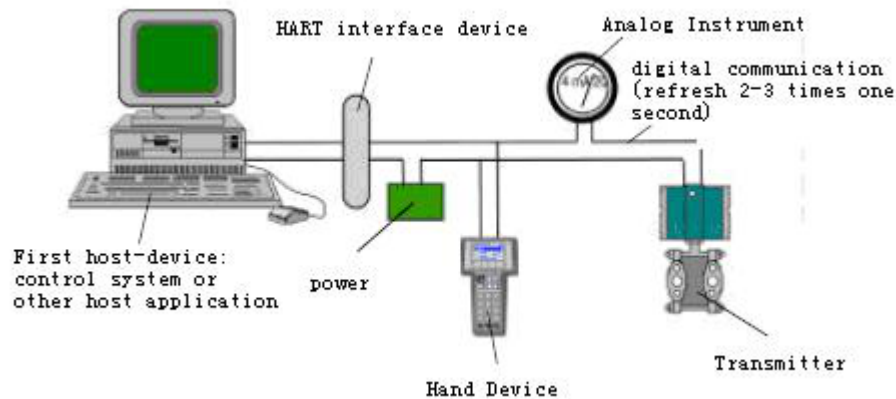

Figure 5.1 Point-to-Point Connection
- **Point-to-Point Connection (Figure 5.1)**